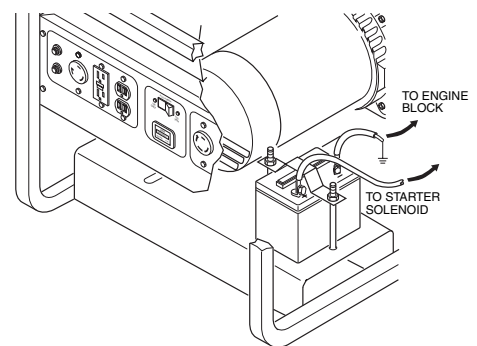

Figure 11 - Connecting Positive and Negative Cables to Battery (Model MGH6500AIE Shown)
2. Locate the red, positive (+) battery cable from starter solenoid. Connect it to the positive (+) battery terminal (see Figure 11).
3. Locate the black, negative (-) battery cable attached to engine block. Connect it to the negative (-) battery terminal (see Figure 11).